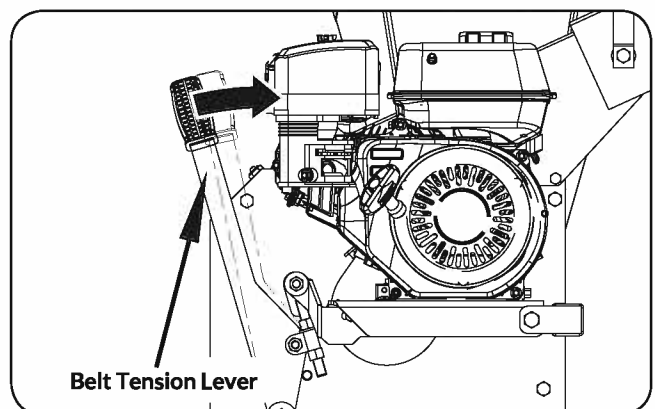

Figure 21
- Pull up on the belt tension lever to tighten the belts. (See **Figure 21**)